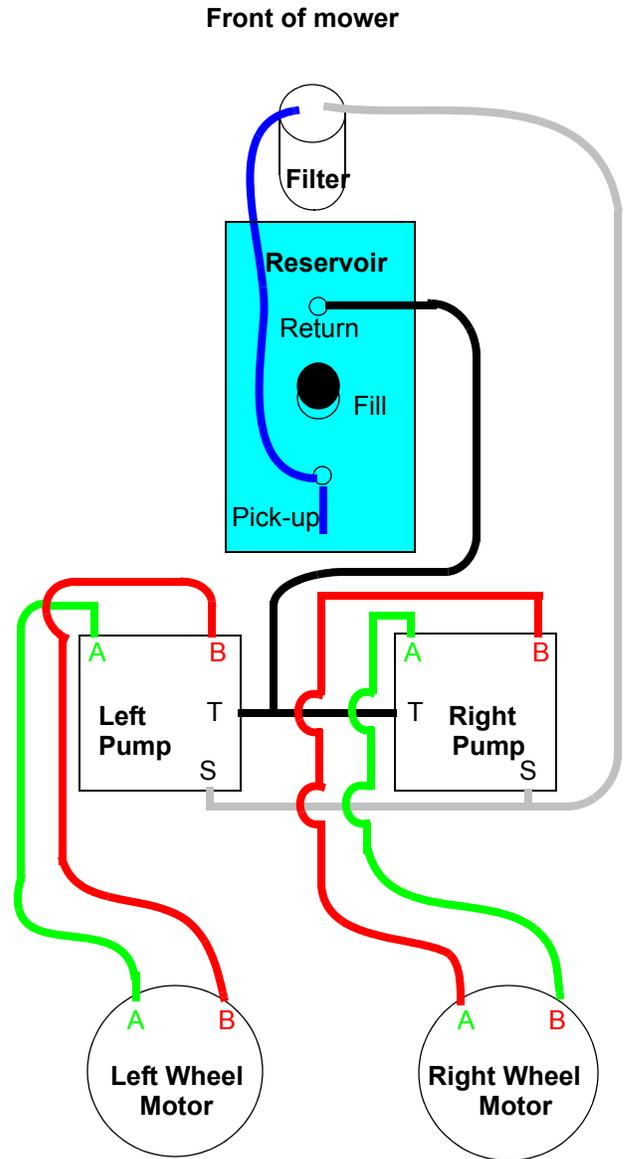

Figure 23.1
23.1. System diagram: See Figure 23.1.